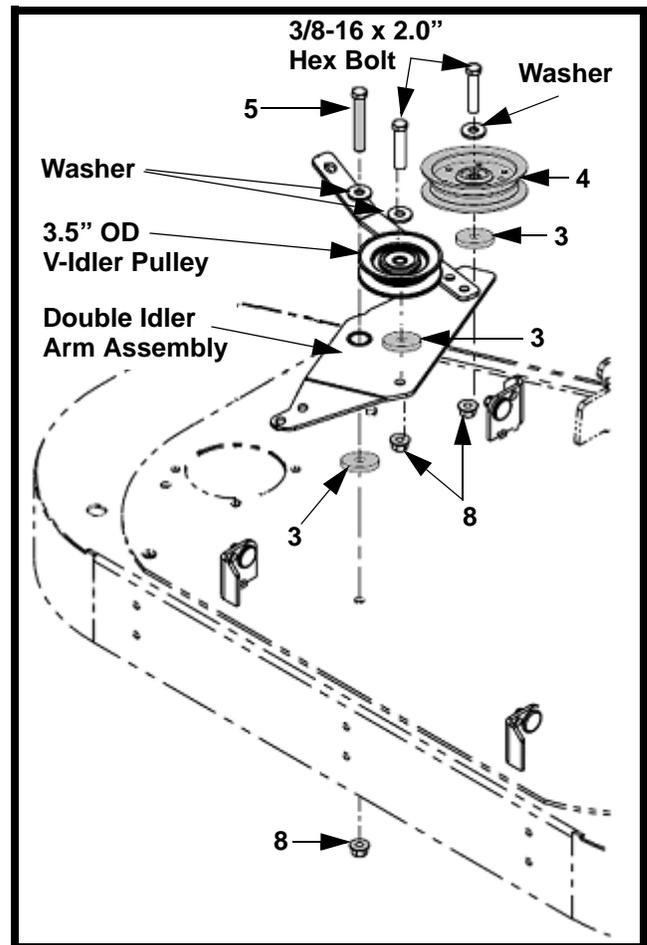

FIGURE 6
26. Install one (1) of Ref.# 3 (01003269) .438 x 1.75 x .250" washer between the 3.5" OD v-idler pulley and double idler arm assembly. Secure the v-idler pulley and washer to the double idler arm assembly with the 3/8-16 x 2.0" hex bolt, flat washer and one (1) of Ref.# 8 (712-04065) 3/8-16 nylon lock flange nut. Tighten the nut and bolt securely. See Figure 6.
27. Install one (1) of Ref.# 3 (01003269) .438 x 1.75 x .250" washer between Ref.# 4 (02004447) 4.88" OD flat idler pulley and the double idler arm assembly. Secure the flat idler and washer with the 3/8-16 x 2.0" hex bolt, flat washer and one (1) of Ref.# 8 (712-04065) 3/8-16 nylon lock flange nut. Tighten the nut and bolt securely. See Figure 6.
28. Install one (1) of Ref.# 3 (01003269) .438 x 1.75 x .250" washer between the double idler arm assembly and deck housing. Secure the double idler arm assembly to the deck housing with Ref.# 5 (710-04576) 3/8-16 x 3.75" hex bolt, flat washer and one (1) of Ref.# 8 (712-04065) 3/8-16 nylon lock flange nut. Tighten the nut and bolt securely. See Figure 6.